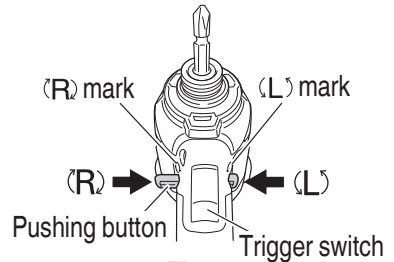

Fig. 7
The L-side of the pushing button is pushed to turn the bit counterclockwise (See Fig. 7) (The (L) and (R) marks are provided on the body).